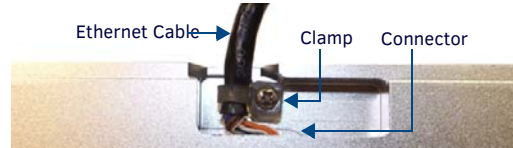

FIG. 3 BOTTOM OF THE MXT-701
In installations where you wish to conceal the Ethernet cable, a hole at least 1.00" (2.54 cm) in diameter is required in the surface to allow passage of the female RJ45 connector (FIG. 3).
2. Remove the clamp holding the Ethernet cable (FIG. 3).